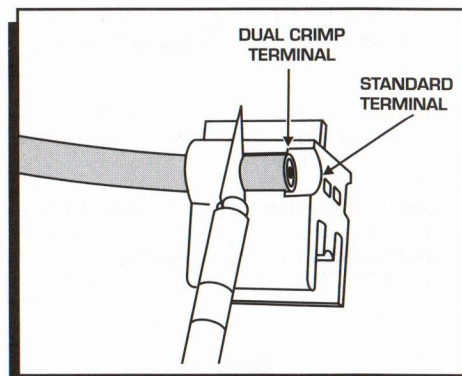

Figure 2 Stripping the Sleeve.
- There are two stripping positions indicated on the stripping slot, depending on the terminal being used. Slide the wire to the correct position and strip the sleeve by holding a razor blade flush with the strip guide and rotate the wire 360° (Figure 2).